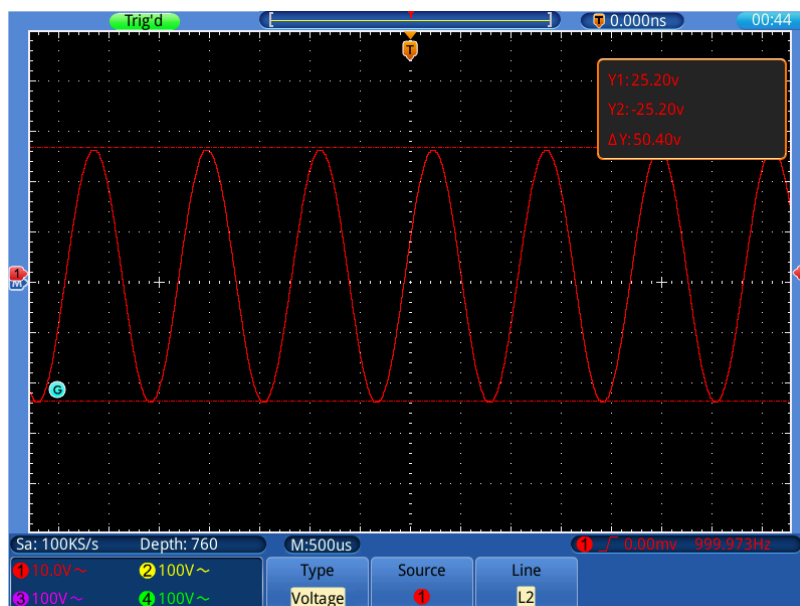

Figure 0-10 Waveform of Voltage Cursor Measurement
2. Select **Source** in the bottom menu; select ① in the left menu.
4. Select **Line** in the bottom menu; select **L1** in the right menu. The **G** icon will appear beside the dotted line of L1, represents you can turn the **G** knob to adjust the position of L1. Select **L2** to adjust the position of L2. Select **L1&L2** to adjust the two cursors together. The cursor measure window at the top right shows the present position of two cursors and the absolute value of voltage difference (see *Figure 0-10*).